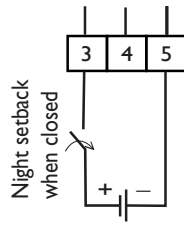

Fig. 2d
- 2) Night-setback, terminals 3, 4 and 5 to be used (see fig. 2d).